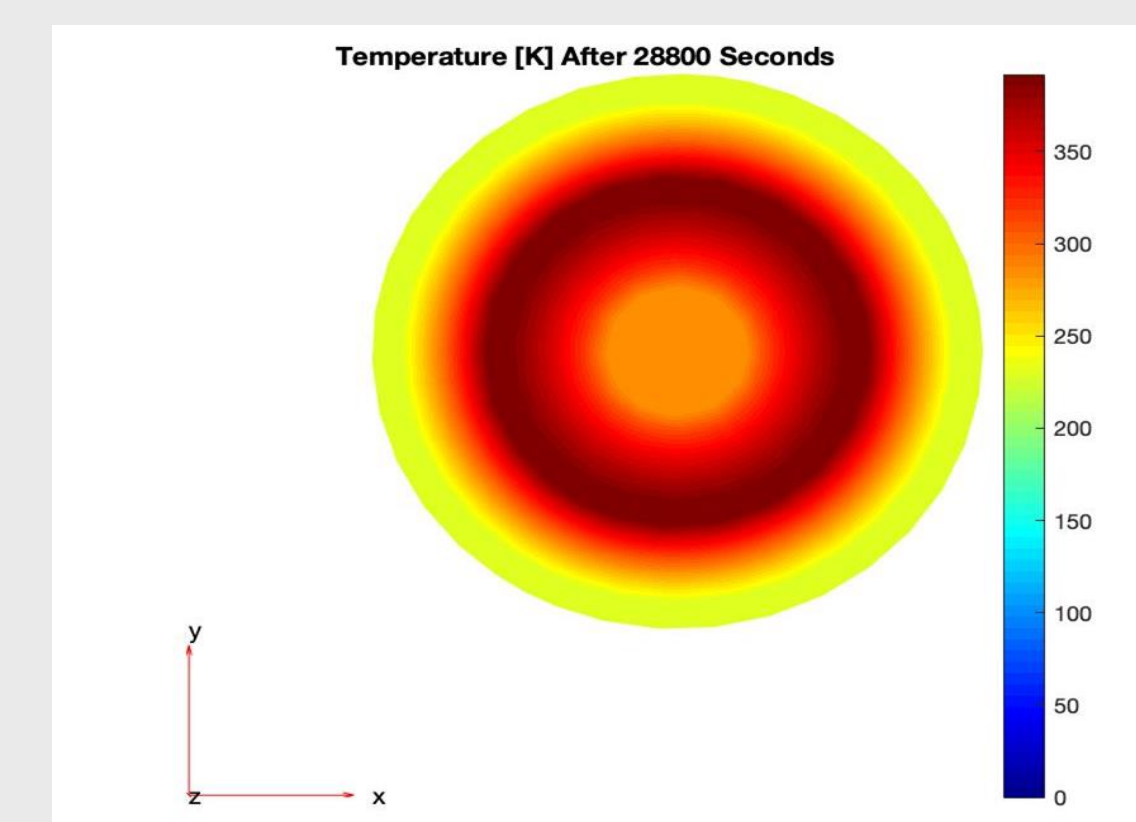

Figure 4. Thermal Analysis Simulation of Hose Assembly
- Simulations, like the one shown in Figures 4 and 6, were created to show the temperatures of each component for all operating conditions.